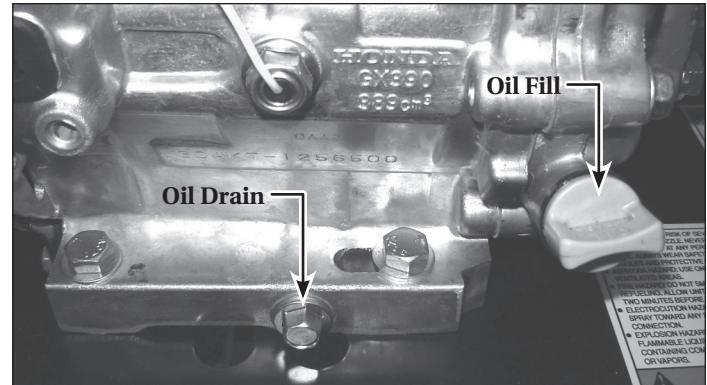

Figure 22 - Oil drain and fill locations
2. Locate and remove the engine oil drain plug (See Figure 22).